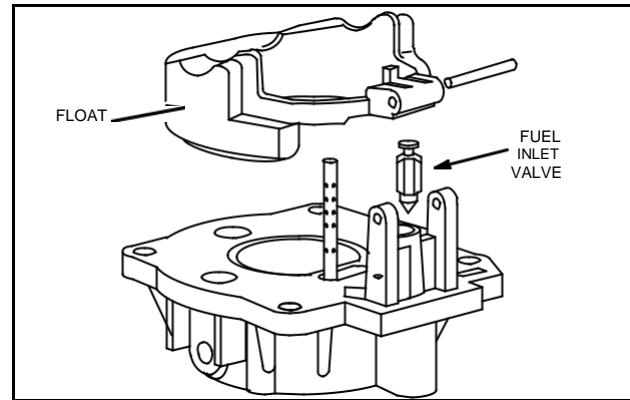

Fig. 28 – Install Float
4. Assemble fuel inlet valve to float and install float, Fig. 28.